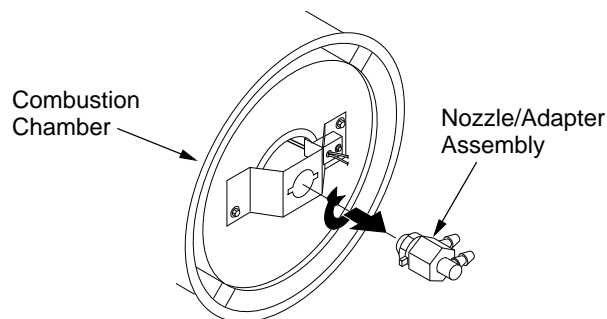

Figure 24 - Removing Nozzle/Adapter Assembly
4. Turn nozzle assembly 1/4 turn to left and pull toward motor to remove (see Figure 24).
10. Attach nozzle assembly to burner strap (see Figure 24).